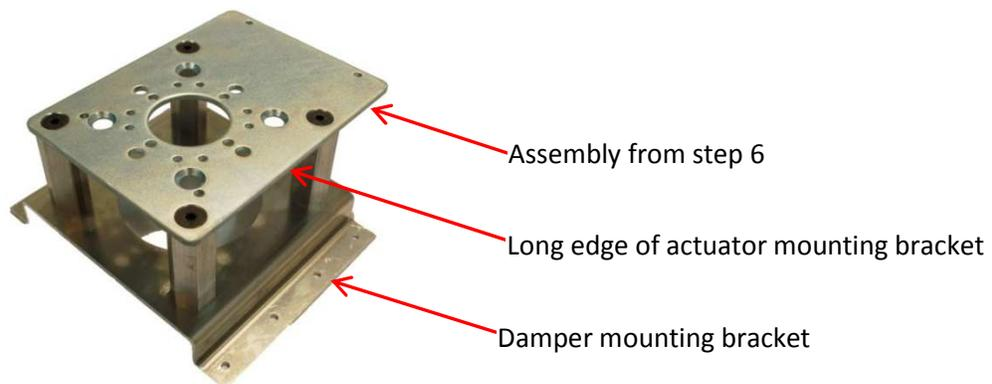

Figure 12: Damper Mounting Bracket Assembly
7. Assemble damper mounting bracket to standoffs using the four 1/4"-20 hex head cap screws, four 1/4" lock washers, and the 7/16" open end wrench. Make sure to mount the damper bracket so that its mounting ears are parallel to the long edge of the actuator mounting bracket as shown in Figure 12.